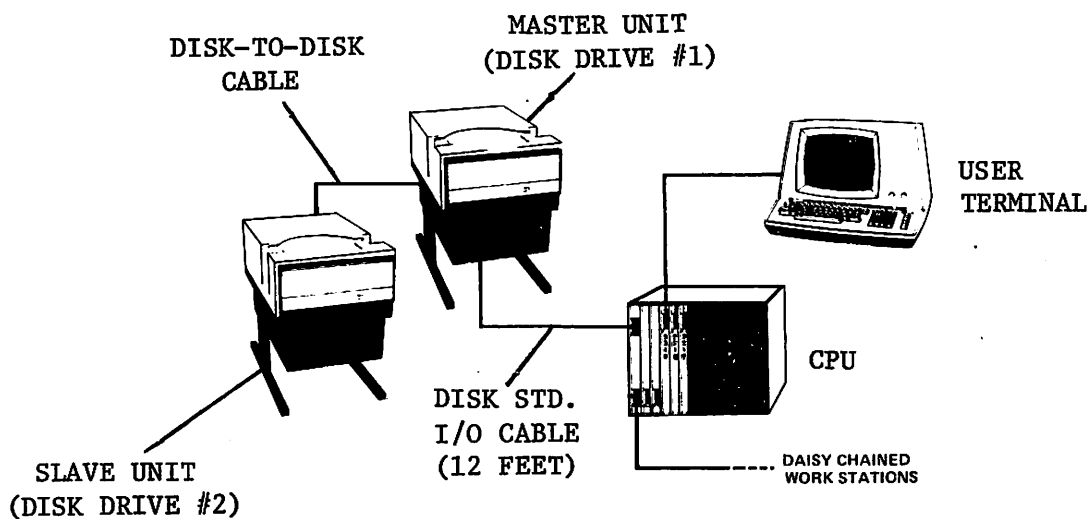

FIGURE 1 - TYPICAL 20 MEGABYTE SYSTEM
- c) Connect the modified disk-to-disk cable (WL #220-0151) between Drive 1 and Drive 2 (Figure 1).
- d) Connect the I/O cable from Drive #1 to the disk controller board in the 2200 CPU (Figure 1).